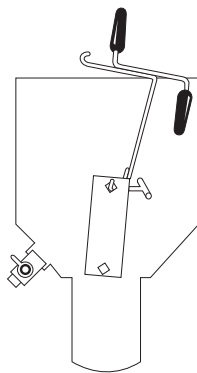

Figure 7
8. Wearing safety gloves, remove heat plate from fryer (Figure 7).